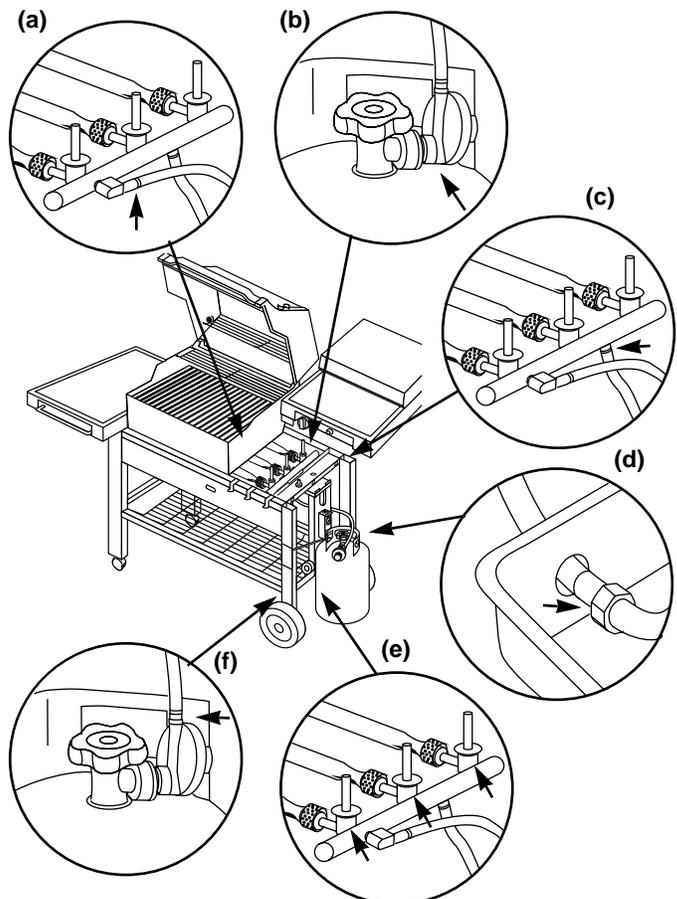

Figure 24
- Hose to manifold connection. Figure 24 (a).
- Regulator to tank connection. Figure 24 (b).
- Manifold to side burner hose connection. Figure 24 (c).
- Side burner hose to side burner connection. Figure 24 (d).
- Valves to manifold connections. Figure 24 (e).
- Hose to regulator connection. Figure 24 (f).